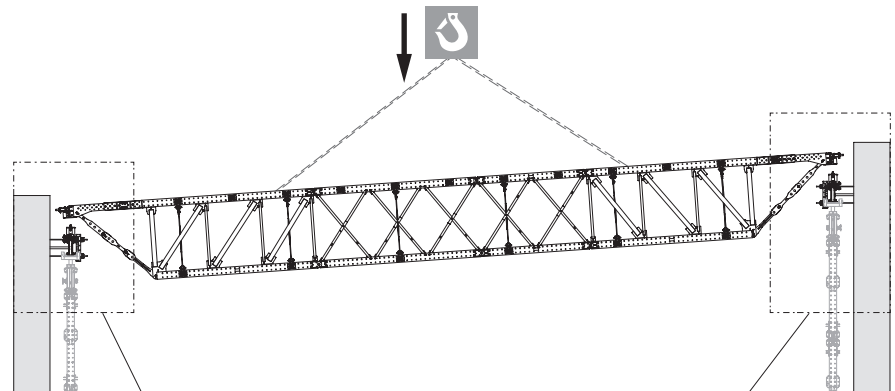

Fig. C1.01
- If the truss package touches down too early on one side, horizontal forces arise that can cause the main beam to shift or overturn. (Fig. C1.01)